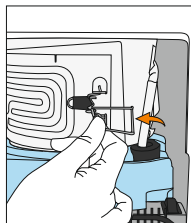

Figure 25
6. Approach the cooler from the rear and open the latch provided on the evaporator band (Figure 25)